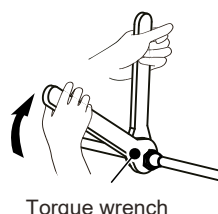

Fig. 8-8
- Tighten it with a spanner and torque wrench (Refer to Fig.8-8)
- When connecting the refrigerant pipes, always use two wrenches/spanners to tighten or loosen the nuts !(Refer to Fig.8-8) Otherwise, it will cause damage of piping connections and leakage .